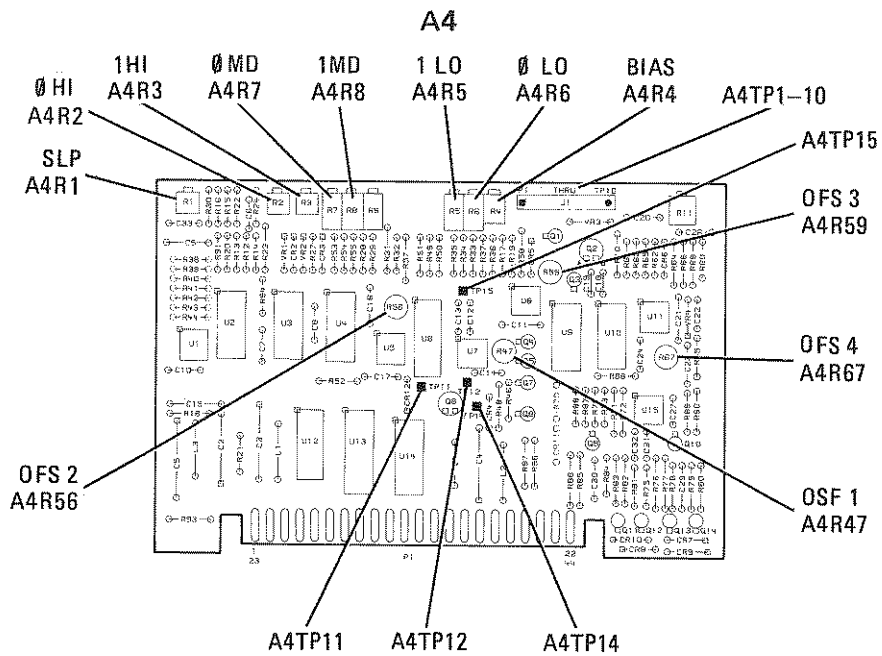

Figure 5-20. ALC Adjustments Location
2. Float the ground on the digital voltmeter and measure the voltage between A4TP12 and A4TP14 (Figure 5-20). Adjust A4R47 OFS 1 (offset 1) for $0.000V \pm 0.001V$.
2. Remove A5 FM Driver board. Obtain best trace continuity at 2.05 GHz by making fine adjustments as follows. Set RF power to 0 dBm and adjust A4R5 (1 LO), to +9 dBm and adjust A4R8 (1 MD), and to +13 dBm and adjust A4R3 (1 HI). (See Figure 5-20.)